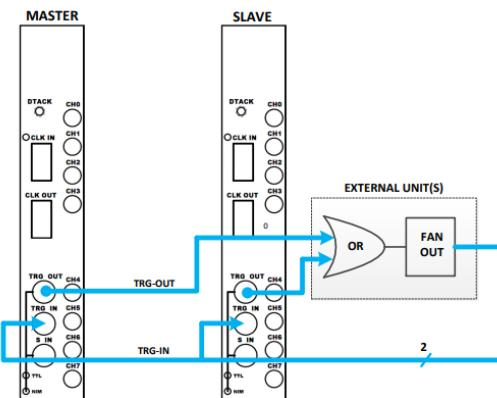

Fig. 6.6: Detail of the implemented Trigger scheme
According to **Fig. 6.6**, the trigger architecture has been implemented as follow:
- The external logic also makes a FAN-OUT of the common acquisition trigger that is so sent back to the TRG-IN input of each digitizer, as shown in **Fig. 6.6**.